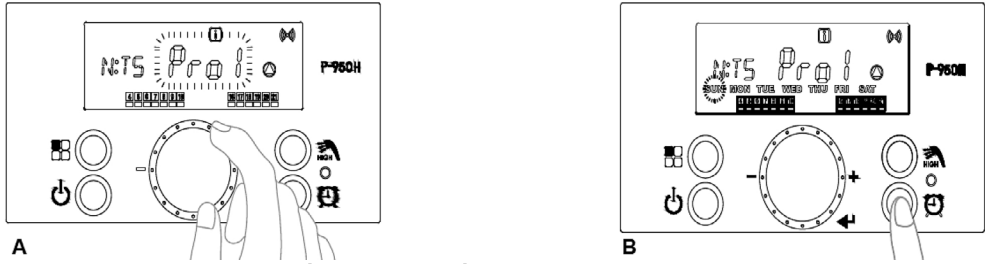

Figure 55 - A - Selecting a Recirculation Function, B - Entering Day Setting
- c. Turn the dial button at the "Pro1", "Pro2", "Pro3", or "PULS" screens to select a Recirculation Function. See Figure 55 A. Press the  button to select the mode.
- d. Press the  button to enter the day setting. See Figure 55 B.